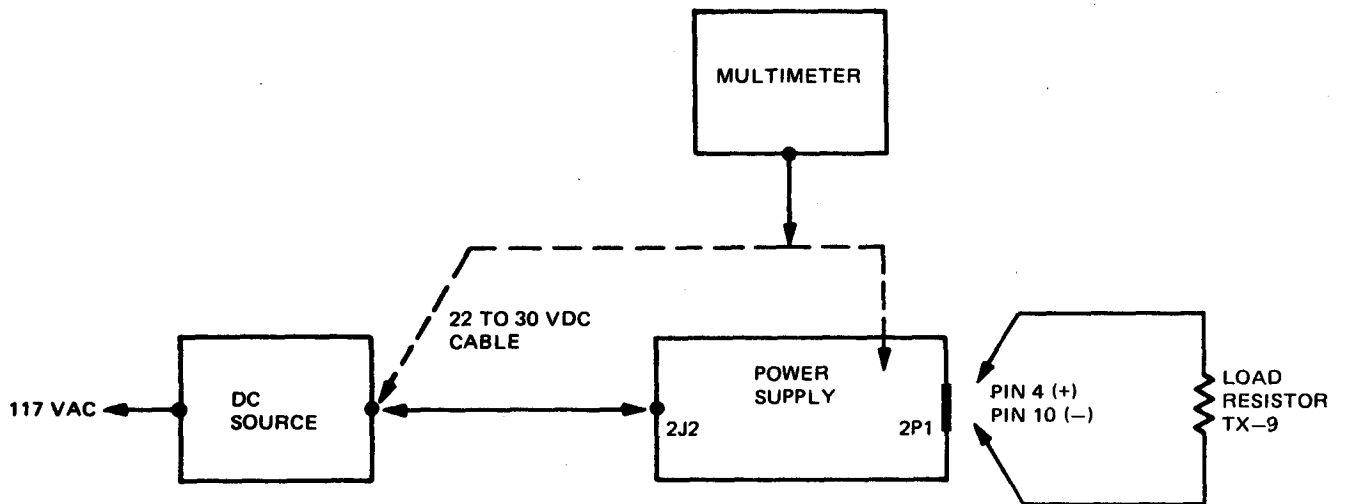

Figure 3-4. Power Supply, DC Input, Equipment Setup
- (1) Remove power supply from case by removing four screws from cover.
- (2) Slide cover away from case as far as possible.
- (3) Connect equipment as shown in figure 3-4.